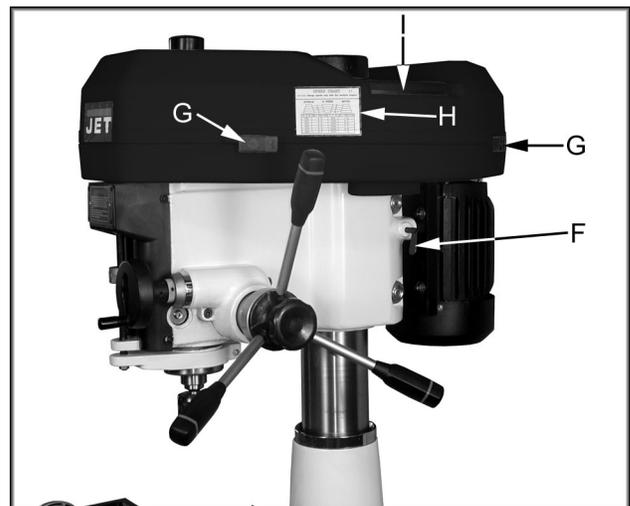

Fig. 11
2. Loosen the motor mount lock lever (F, Fig. 11) and pull the motor toward the head casting to release tension on the v-belts.
3. Release two latches (G, Fig. 11) on belt cover and slide pulley guard open (I, Fig. 11).
4. Arrange the v-belts (A, Fig. 12) on the pulleys (B, Fig. 12) for the desired speed according to the speed chart (H, Fig. 11) on the belt cover.
5. Tension the v-belts by pushing the motor away from the head casting and locking the motor mount lock lever (F, Fig. 11). **Note:** Proper tension is achieved when the slack in the belt is taken up and the belt does not slip during operation of the mill/drill.
2. Release two latches (G, Fig. 11) on the belt cover and slide the pulley guard open (I, Fig. 11).